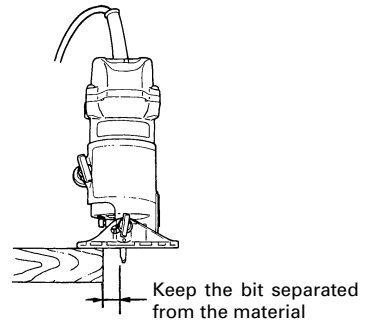

Fig. 5
- (1) Keep the bit separated from the material and hold the body firmly before switch is turned on. (Fig. 5)